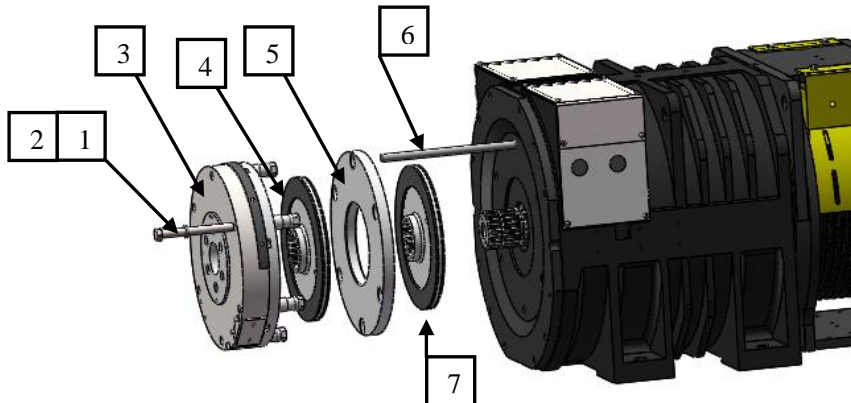

Figure 52: Re-installing Normal Brake
4. Install the threaded rod M16x320 into the top hole of brake frame as shown by item 6 in Figure 52 and Table 8.
7. Then install the other brake components according to isometric assembly picture below (Figure 52).